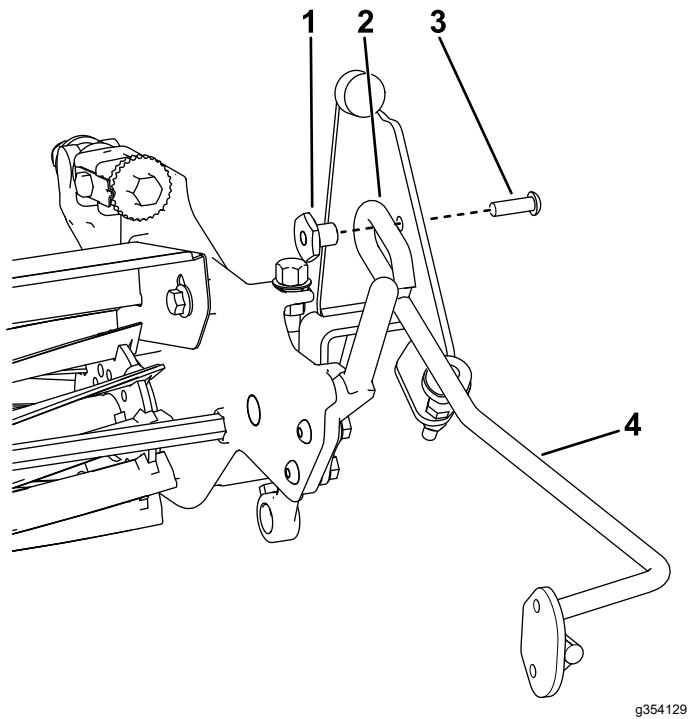

Figure 3
6. Install a brush rod to both brackets with a hex-socket-head screw (5/16 x 1 inch) and a spacer nut (Figure 3).
Ensure that the welded loop on the brush rod is positioned as shown in Figure 3.